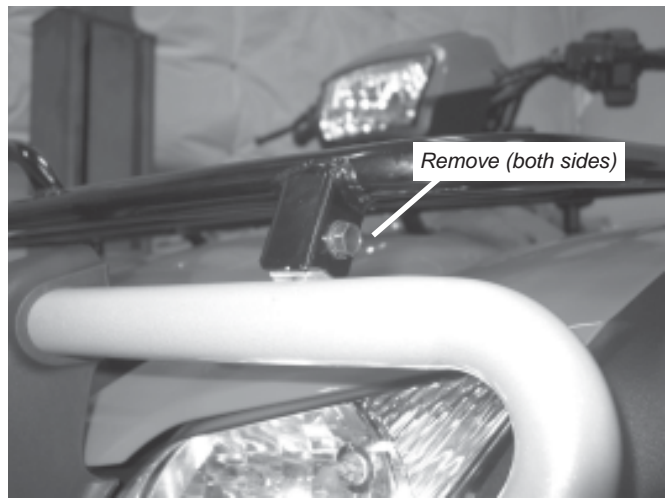

Figure 4 Remove Top Bumper Bolts
4. Remove the two top 8mm bumper bolts that attach the front bumper to the front rack, figure 4. Save the fasteners as they will be used to reinstall the front bumper.
Note: Please refer to page 5 - figure 4 of the installation manual that came with the winch kit. It is very important to locate the mounting bolts in the correct side of the winch.